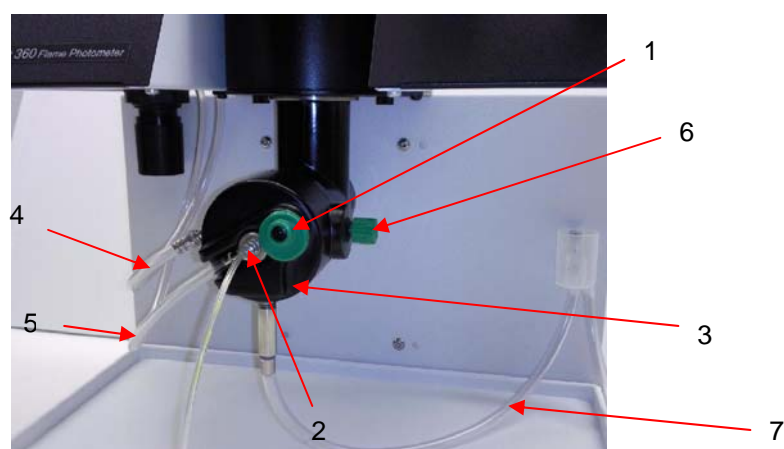

Figure 6.6 Mixing Chamber
6. Release the nebuliser retainer (item 1, Figure 6.6) and withdraw the nebuliser (item 2, Figure 6.6).
2. Release the nebuliser retainer and withdraw the nebuliser (items 1 and 2, Figure 6.6).
3. Disconnect the fuel tubing (item 4, Figure 6.6) from the end cap connector (item 3, Figure 6.6) using a twisting movement. *Do not* pull the tubing, as this will make it grip the connector more tightly.
7. Unscrew the end cap securing screw (item 6, Figure 6.6). Grasp the end cap (item 3, Figure 6.6) and remove it from the mixing chamber, with a slight twisting action. Lift the end cap to allow the water in the 'U' tube to flow into the constant head drain. Disconnect the 'U' tube from the end cap and constant head drain.
14. Replace the end cap, using a twisting movement. Align the hole with the mixing chamber screw fixing. Fit the screw (item 6, Figure 6.6).